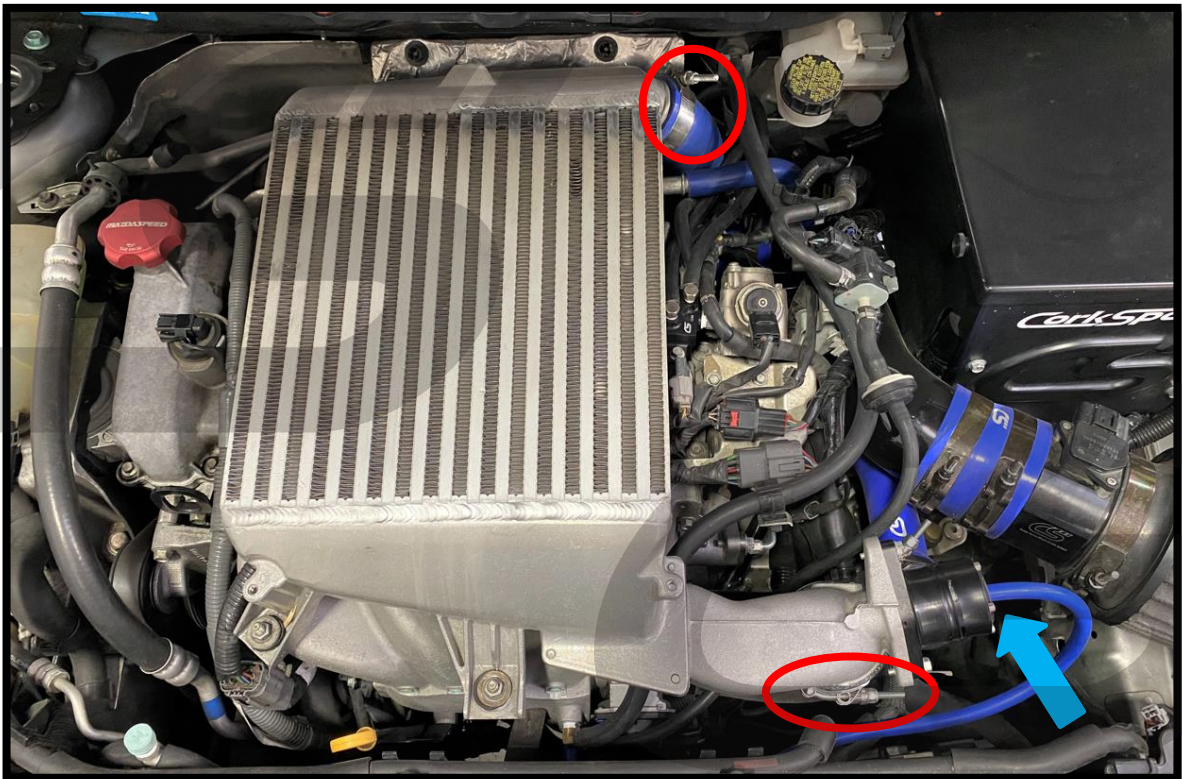

Figure 1b
- b) Remove the clamps for the throttle body and turbo boost tubes from the intercooler. Use a 10mm socket to loosen the clamps (red circles in Figure 1b).
- c) Detach the bypass valve (BPV) signal hose from the BPV. Release the spring clamp and then remove the signal hose from the BPV (blue arrow in Figure 1b). Leave the bypass valve attached to the intercooler pipe.